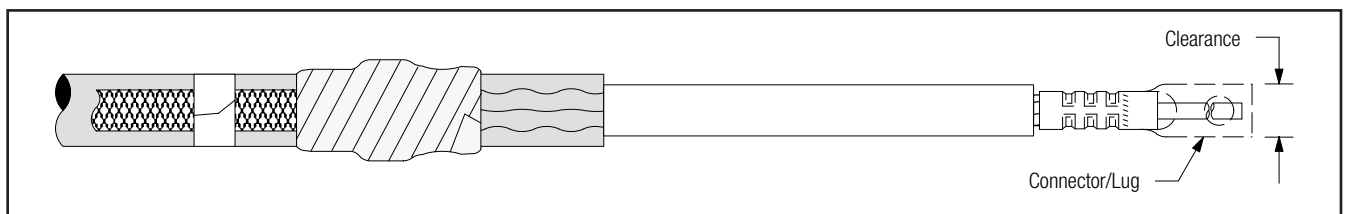

Figure 25
**14.1 Check to insure 3M Cold Shrink QT -III Silicone Rubber Termination fits over the selected lug or connector BEFORE installing the lug or connector.** If lug or connector (Figure 25) will not fit through the termination core, clean the insulation (per Step 15.0) and slide termination on cable before installing lug or connector. **DO NOT REMOVE CORE AT THIS TIME.**